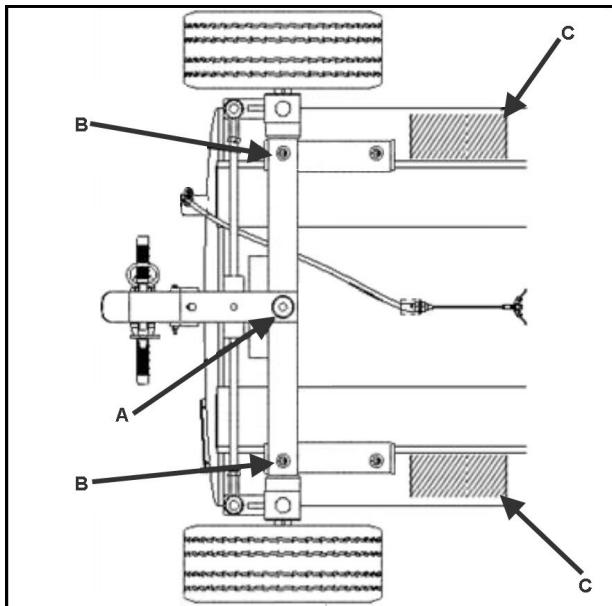

Figure 4-2 Lift Points
- b. Raise equipment with suitable maintenance jack (see Figure 4-2, arrow A for jack placement) high enough to remove wheel assembly.
- c. Place approved jack stands under front axle (see Figure 4-2, arrow B for stand placement).
To remove the entire Front Undercarriage assembly, the equipment must have the front end raised. See Figure 4-2 for lift points.
- b. Place cribbing under tank skids (see Figure 4-2, reference arrows C) to safely support the equipment.
- e. Remove bolts (2) and nuts (3).
- g. Pull Front Undercarriage forward. Note location of rubber mounting pads (5).
- a. Raise equipment with suitable maintenance jack high enough to remove wheel assembly. (See Figure 4-2, e arrow A for jack placement).
- b. Place approved jack stands under rear axle (see Figure 4-2, arrow B for stand placement).